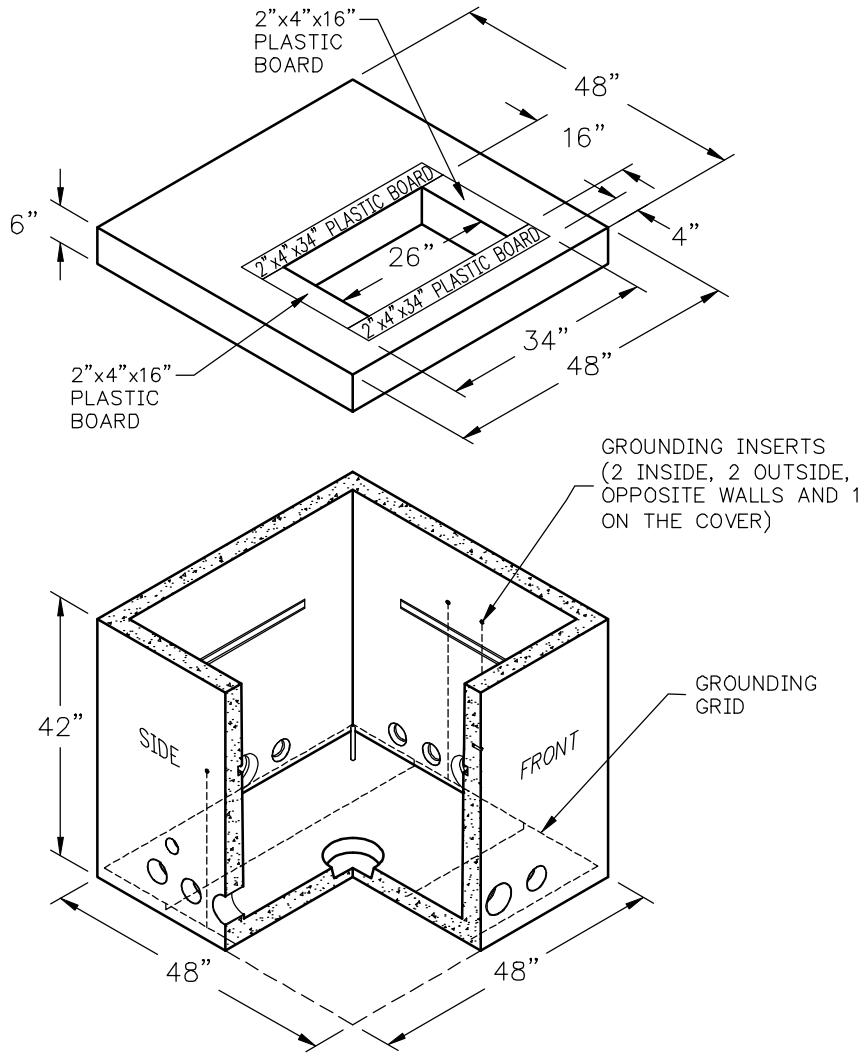
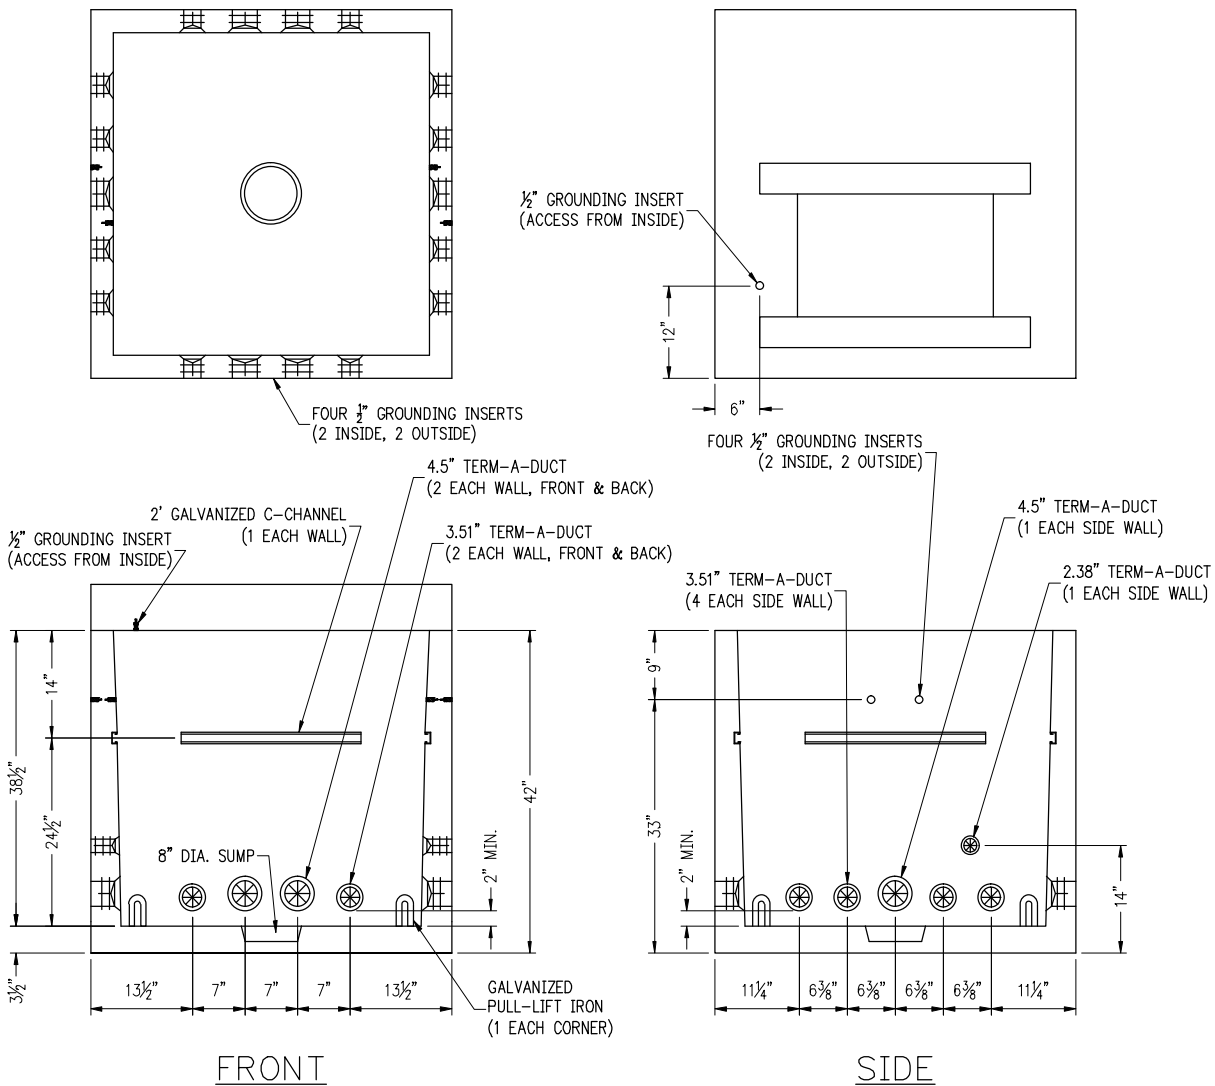

Figure 1—Single-Phase Pad for Sectionalizing Cabinets and Transformers, Vault and Grounding Grid (SI# 7999607)
Figure 2—4' x 4' Vault Layout
Unless otherwise approved by PacifiCorp engineering, all dimensions and placement of hardware shall conform to those shown in Figure 1 and Figure 2.
- two 2" × 4" × 34" and two 2" × 4" × 16" composite boards for transformer or sectionalizing cabinet, cast flush with the top of the padvault lid, at the locations specified in Figure 1.
Each padvault shall have five grounding inserts: Two on opposite side walls and one at the cover. Two inserts on opposite side walls shall be available for connection on the inside and outside of the vault. The outside grounding inserts shall be centered on the side walls. The inside inserts shall be centered on the side wall or located no less than 6" from diagonal corners. The cover pad grounding insert shall be accessible from inside the vault. See Figure 2 for more details.
The units shall be constructed with terminal duct entrances compatible with with PVC or Polyethylene (PE) schedule 40 duct. The wall terminations shall be as shown in Figure 2.